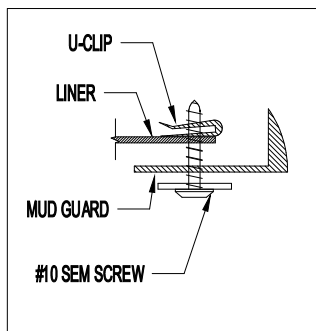

Figure 2
4. Install a #10 SEM screw through location C and into a u-clip on the back side of the fender. (Figure 2).
6. Install a #10 SEM screw through location D and into a U-clip on the backside of the liner (Figure 2).